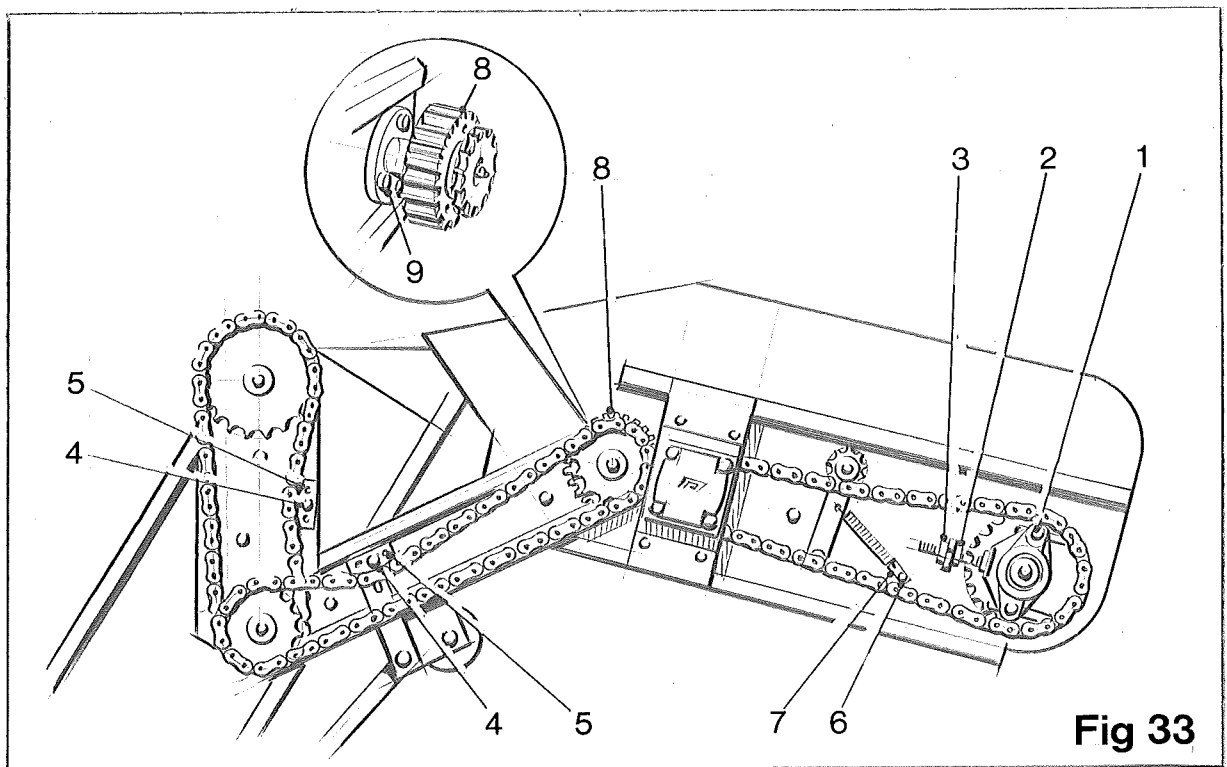
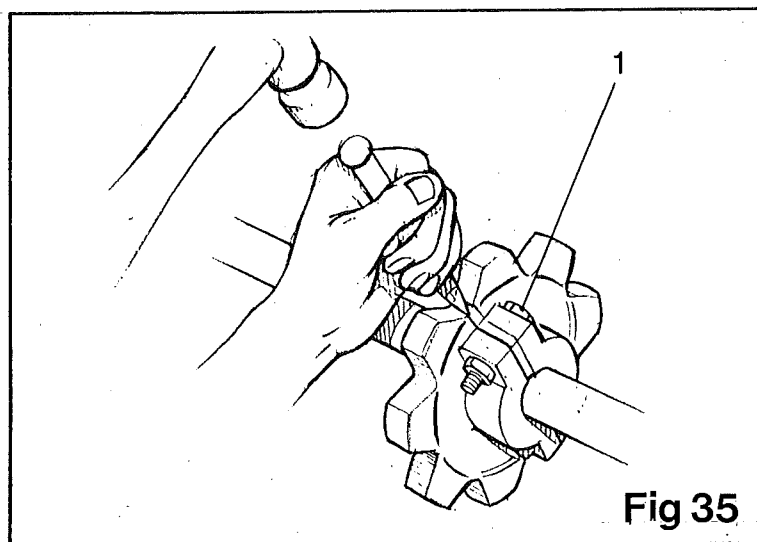

Fig 33
Fig 35
To adjust, slacken the bearing retaining nuts (item 1, fig 33) and loosen the adjuster lock nut (item 2, fig 35). turn the adjuster nut (item 3, fig 33) in the direction required until alignment of the web is achieved. Lastly, retighten the lock nut and bearing retaining nuts.
Drive for the discharge elevator is provided by a hydraulic motor, 3 chains and two gears (see fig 33). Two of the chains can be adjusted for tension by loosening the retaining bolt (item 4, fig 33) and sliding the adjusting block (item 5, fig 33) to the required position. Retighten the securing bolt.
The third chain has a spring adjusted tensioner. If adjustment is required, loosen the retaining bolt (item 6, fig 33) and turn the spring anchor (item 7, fig 33). Retighten the retaining bolt.
The gear idler (item 8, fig 33) can be moved onto or away from the motor driven gear as required.
To adjust, slacken the retaining nuts (item 9, fig 33) and rotate the gear and spigot in the slots until the desired position is achieved. Retighten retaining nuts.
1. Loosen the fixing bolts (item 1, fig 35) and remove.
2. Using a hammer and chisel, split the sprocket along the groove provided (fig 35).
2. Split the sprocket with a hammer and chisel in the groove provided (fig 35).
3. Locate both halves on the shaft and secure using the fixing bolts (item 1, fig 35).